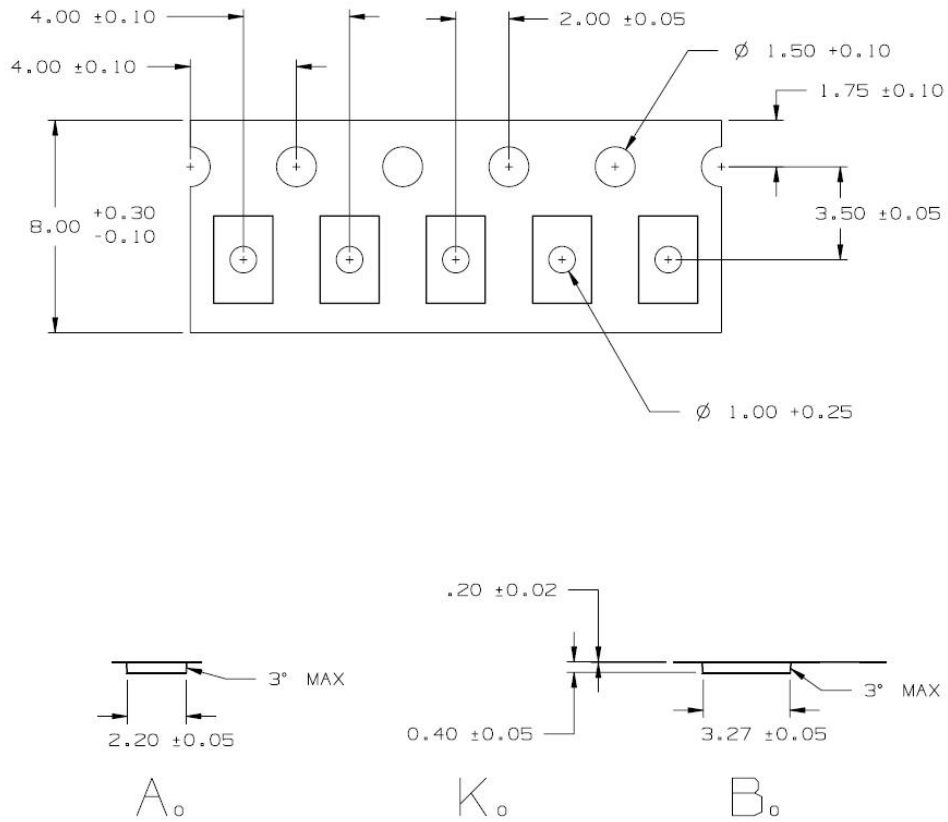

Figure 12. EA2M–SUD Tape & Reel
12. EA2M–SUD8A1G: Die in Tape & Reel with die thickness = 8 mil ± 0.5 mil. These chips are contained in a Tape and Reel. The mechanical specifications of the trays are shown in Figure 12. Dimensions are in mm.